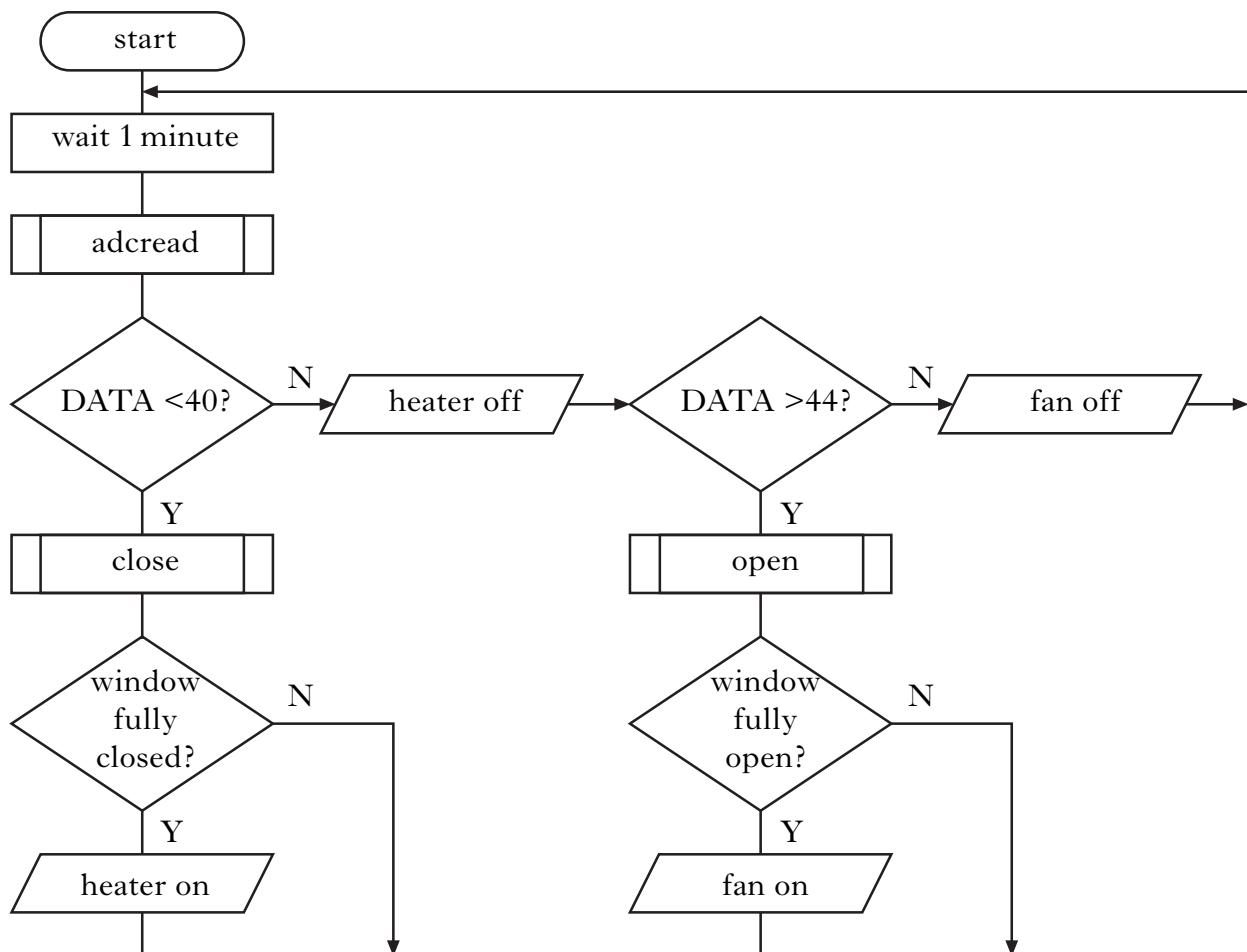

Figure Q5(c)
- (b) Write, in PBASIC, the main control program described in Figure Q5(c).